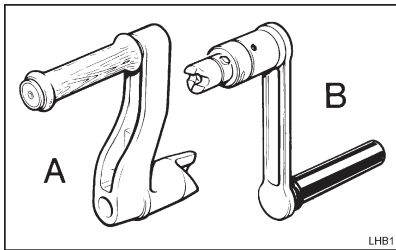

Figure 3.4.1 The two types of starting handle.
A non-limited kick-back handle (Figure 3.4.1, A) or limited kick-back handle (B) system may be fitted to the engine.
- 5a. **If using a non-limited kick-back handle:** Insert the correct handle (see *Figure 3.4.1, A*) into the starting housing. Slowly rotate the handle in the direction of cranking until it fully engages.
- 5b. **If using a limited kick-back handle:** Swivel the starting-handle housing cover (A) to one side and insert the correct handle, refer to 'B' in *Figure 3.4.1*, into the housing. Slowly rotate the handle in the direction of cranking until it fully engages.